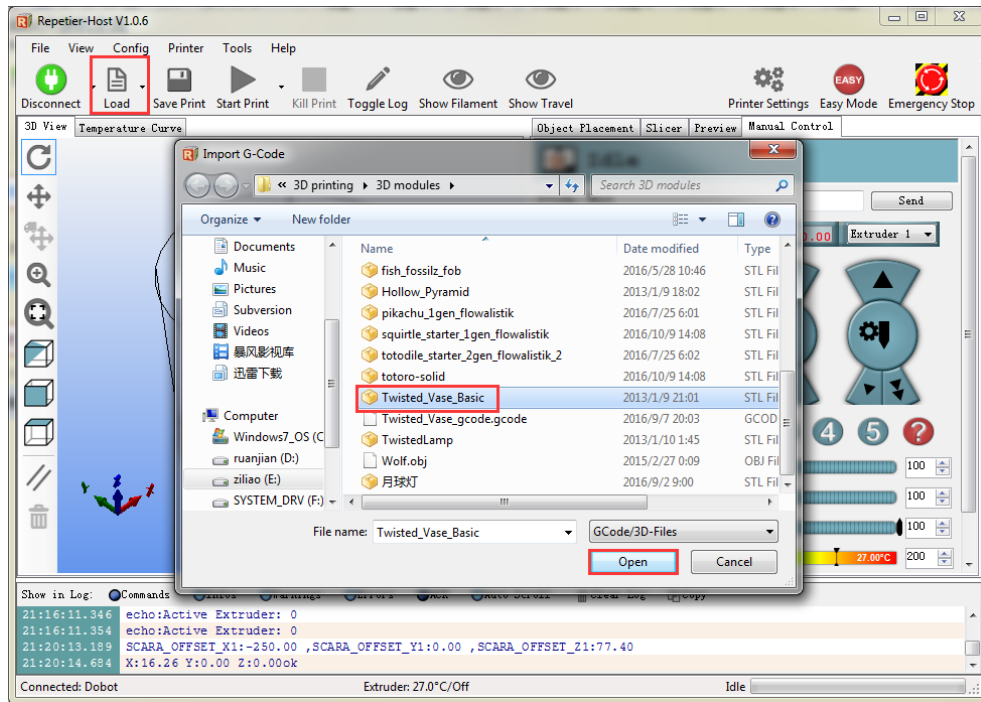

Figure 5.136 Import 3D printing Model
Step 5 Click **Load** to import the prepared 3D printing model, as shown in Figure 5.136. The format of 3D model is **STL**. You can design 3D model and transform it into STL format.